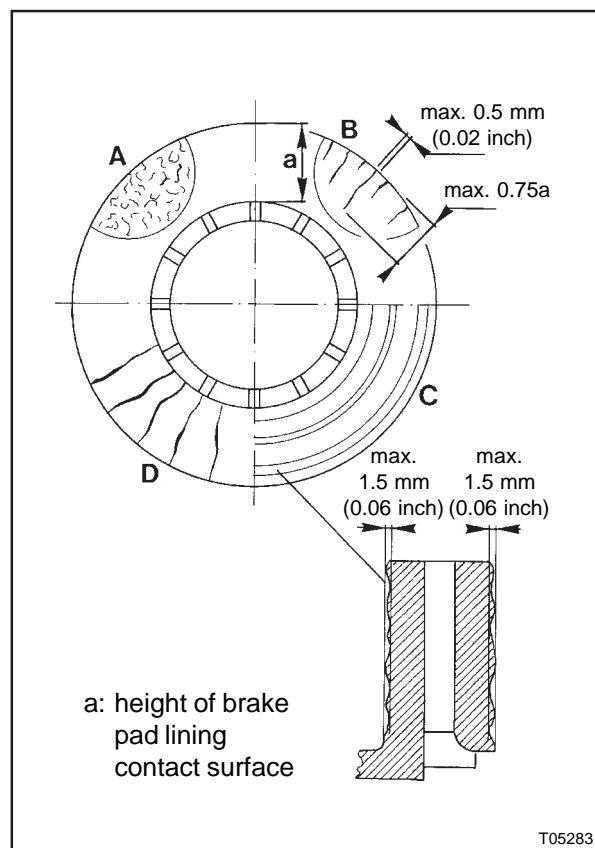

Figure 4: Brake disc condition criteria
- **To check brake disc condition (see Figure 4)**